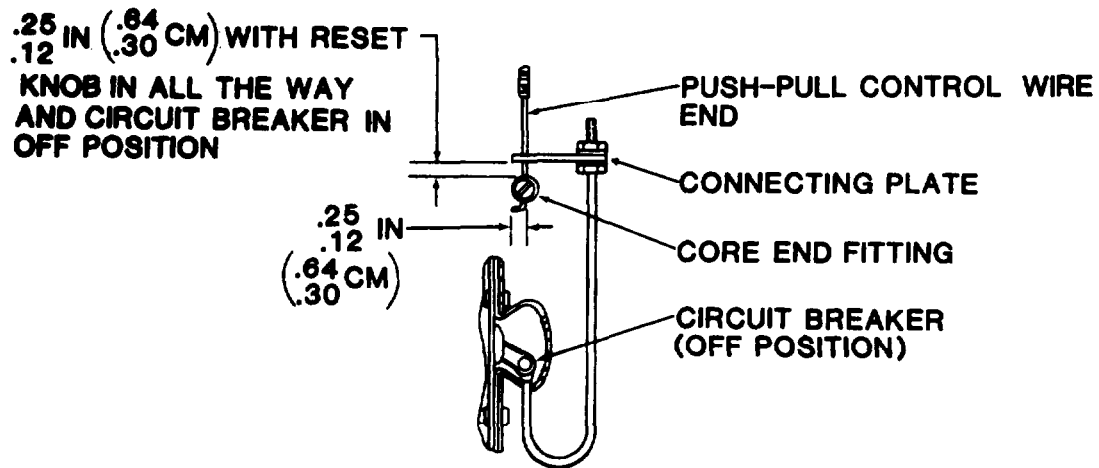

Figure 4-58. Reset Control Wire Connection
- (6) Insert push-pull control wire end through hole in connector plate.
- (7) Slip core end fitting on push-pull control wire end and use screwdriver to tighten screw.
- (8) Flip circuit breaker to OFF (down) position.
- (9) With core end fitting positioned as shown on figure 4-58, secure push-pull control wire casing to side of junction box with two screws, spacers, and clamps.
- (10) Check that circuit breaker is turned on when knob on rear of air conditioner is pulled out and pushed in. Pushing knob in should not turn circuit breaker off.
- (11) Carefully move junction box into position and align mounting hardware.
- (12) Using screwdriver, tighten four captive panel fastener screws.
- (13) Insert bottom flange of lower front panel inside the lip of the cabinet base.
- (14) Push top of lower front panel into position.
- (15) Using screwdriver, secure lower front panel with two captive panel fastener screws.
- (16) Connect power cable.
- (17) Turn on power at power source.